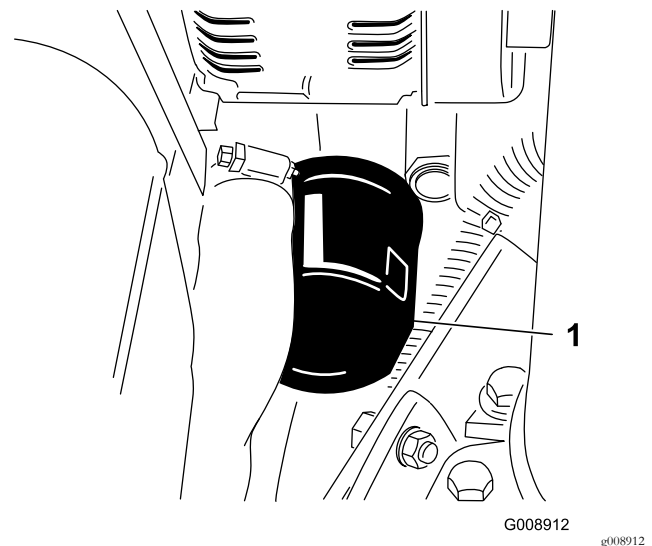

Figure 65
2. Remove the oil filter (Figure 65).